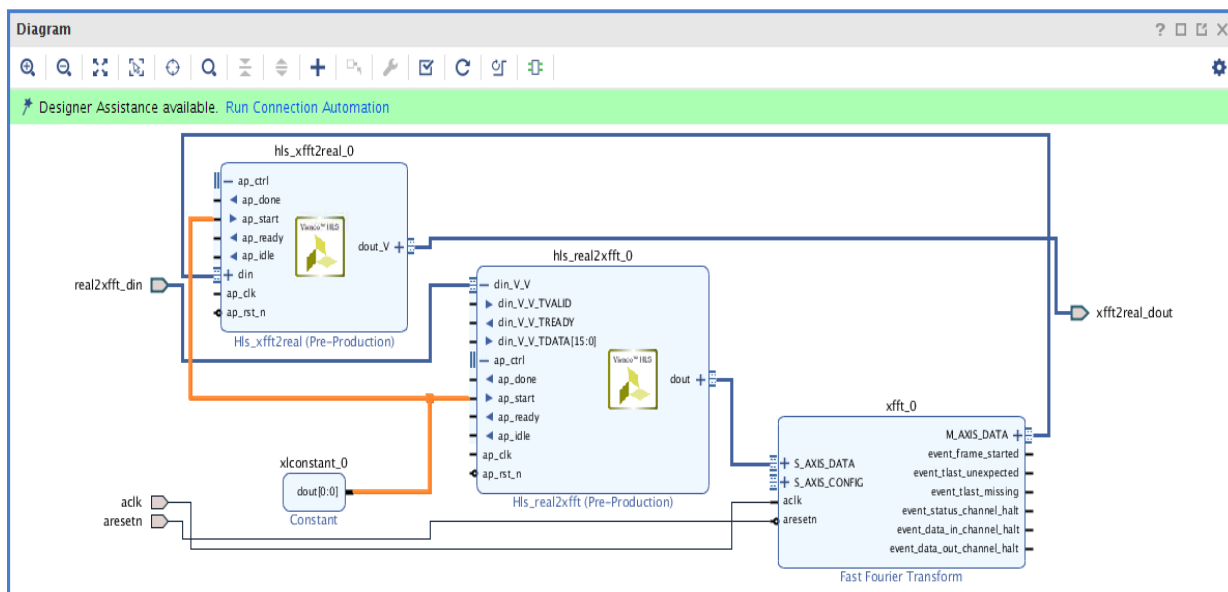

Figure 9-21: Connect AP_START to Constant
- g. Connect `ap_start` in both HLS blocks to the Constant block (Figure 9-21).